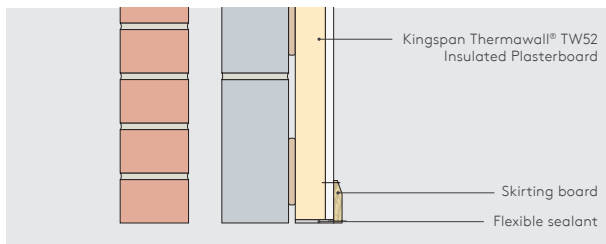

Figure 7: Packer and skirting detail
- The packer should be replaced with a flexible / sealant or equivalent (for 5 mm gaps), or with a combination of flexible polyurethane foam and flexible sealant or equivalent (for 15 mm gaps) (see Figure 7).